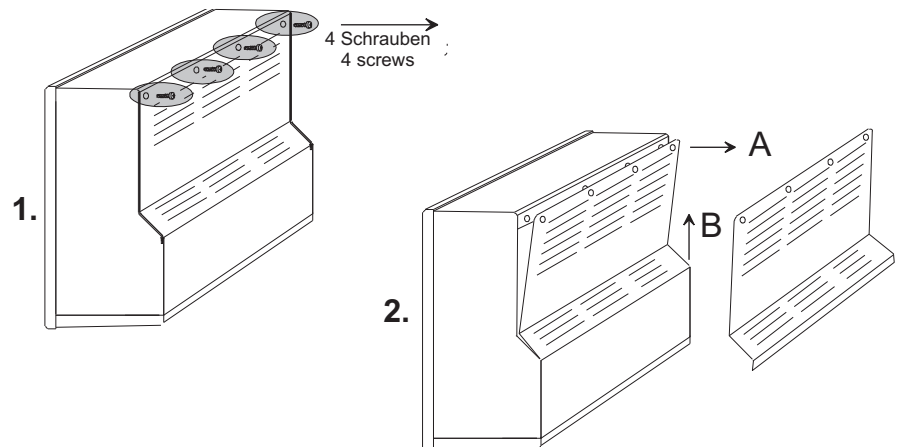

Fig. 8-2: Remove rear cover
3. Open the backplane cover (four screws). Store screws and metal plate. (fig. 8-2)